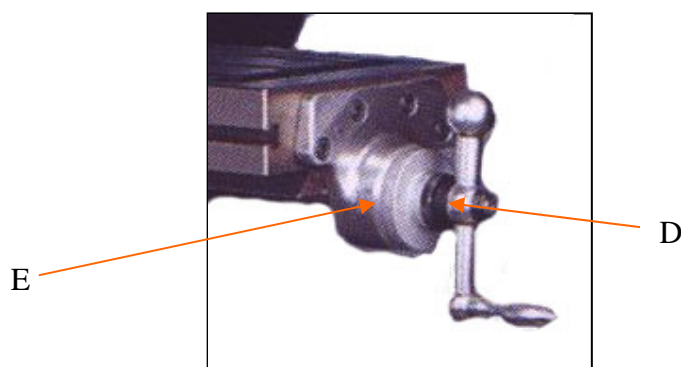

FIG6-11
6.2.2 Zero positioning (as shown in figure 6-11) of dial ring of table feed.